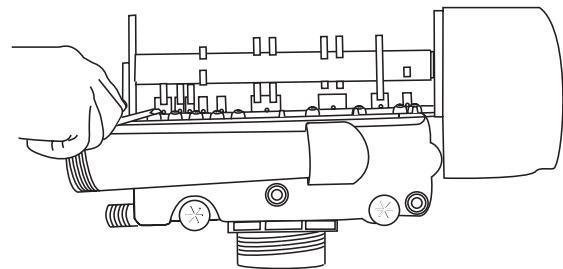

Figure 12
4. Relieve system pressure by opening the Backwash Drain Valve (the seventh valve back from the control) with a screwdriver, Figure 12.